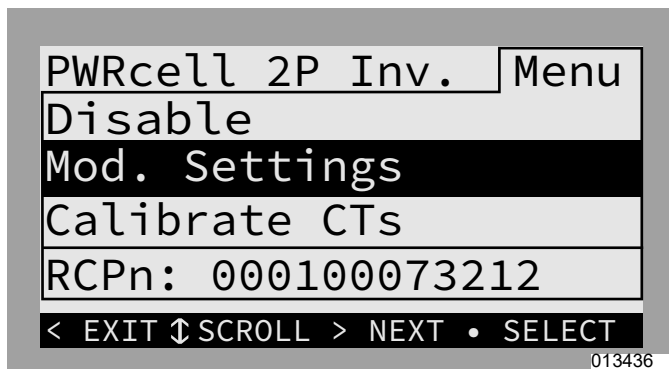
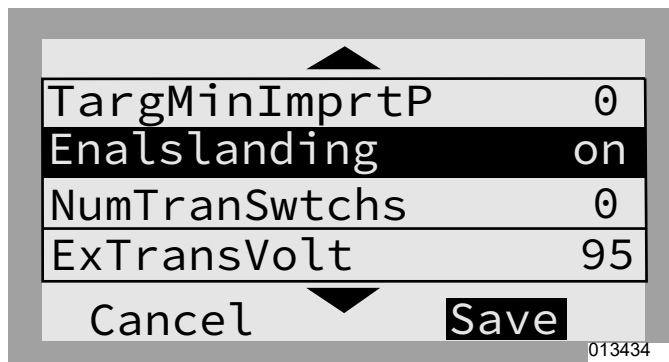

Figure 7-17. PV + Storage - Partial Home (1 of 2)
Figure 7-18. PV + Storage - Partial Home (2 of 2)
- See Figure 7-17 and Figure 7-18. Inverter “Mod. Settings.”